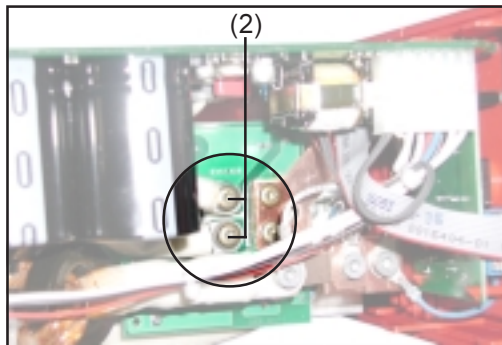

Fig.19 Detach transformer cables from the secondary diode
- undo the M4x20 (TX20) screws (2) with cup springs (Fig.19)
- remove the screws (2) with cup springs